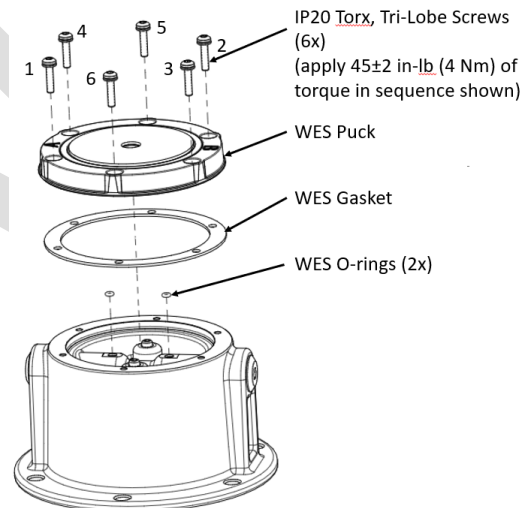

Figure 28: Hubcap WES components installation
7. Torque all (6) IP20 torx screws to 45 in-lbs in sequence shown in Figure 28 on page 18